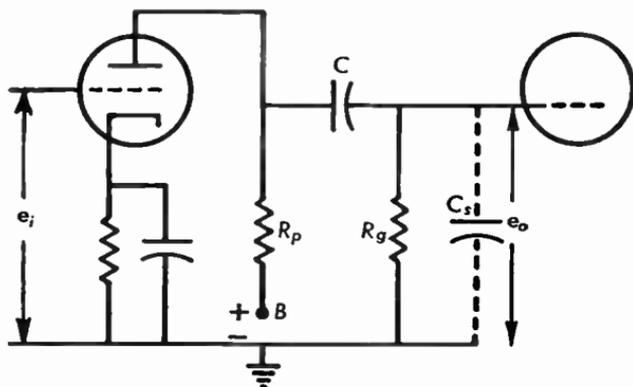

Fig. 5.01a Resistance-capacitance coupled amplifier stage.
5.01 In the resistance-coupled amplifier stage of Figure 5.01a,  $R_p = 250,000$  ohms,  $C = 0.01$  microfarad,  $R_g = 1$  megohm, the effective shunt capacitance  $C_s = 75$  micromicrofarads, the plate resistance  $r_p = 240,000$  ohms, and the amplification factor  $\mu = 65$ . Calculate the voltage amplification at a frequency of 1000 cycles. Do not use formulas. Neglect the cathode resistor and capacitor.
**5.02** Calculate the voltage amplification of the resistance-coupled amplifier stage of Figure 5.01a, problem 5.01, at a frequency of 11,800 cycles.
**5.05** Using the formula derived in problem 5.04 calculate the medium frequency response of the resistance coupled amplifier stage of Figure 5.01a, problem 5.01.